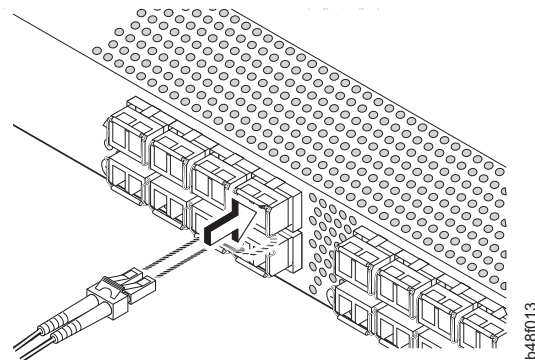

Figure 10. Installing a cable
4. Orient a cable connector so that the key (the ridge on one side of the connector) aligns with the slot in the transceiver (see Figure 10). Then, insert the cable into the transceiver until the latching mechanism clicks.